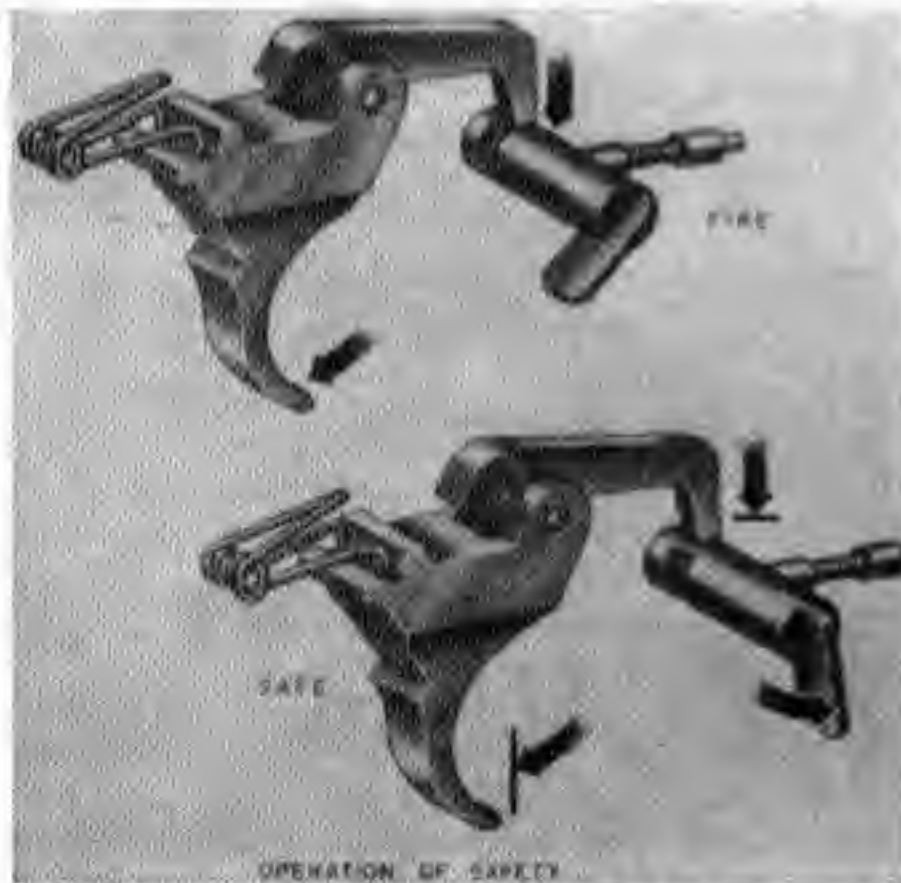

Figure 43. How the safety works.
a. The Safety. To see how the safety works, cock the hammer and rotate the safety downward to the *safe* position. As you rotate the safety downward the trigger notch in the safety rotates to the rear and in its place the solid portion of the safety is exposed to the forward end of the trigger. Attempt to squeeze the trigger. The solid portion of the safety now blocks the forward end of the trigger, preventing the trigger from moving. Since the trigger cannot move, the hammer remains stationary and the weapon does not fire (Fig. 43).